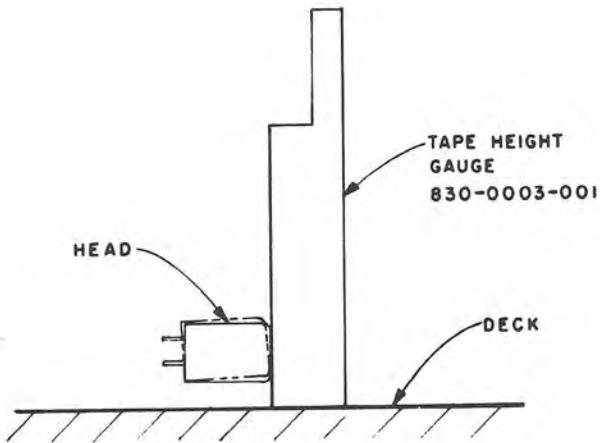

FIGURE 5-14
3. **Course Zenith:** Adjust the Rear Height Screw RH until the face of the head is perpendicular with the surface of the deck. Position the Tape Height Gauge (or any gauge known to be square) on the deck surface and move it against the face of the head as shown in Figure 5-14. The gauge used should be demagnetized before using for adjustment. Be careful to avoid scratching the face of the head. When the head is perpendicular, the face of the head and the “square” will be flush.